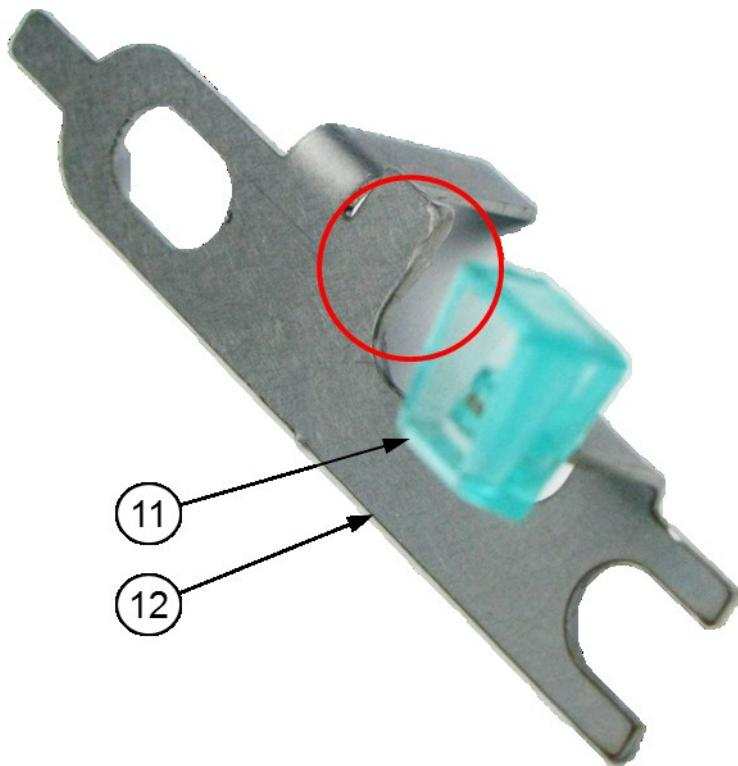

Fig. 97 Technical vaseline application on the side surface of the PCA bolt cover
10. Mount the **Bolt hook PCA (11)** on the **PCA bolt cover (12)**.
11. Apply some quantity of the **TB-9** technical vaseline on the side surface of the **PCA bolt cover (12)** as shown in **Fig. 97.**